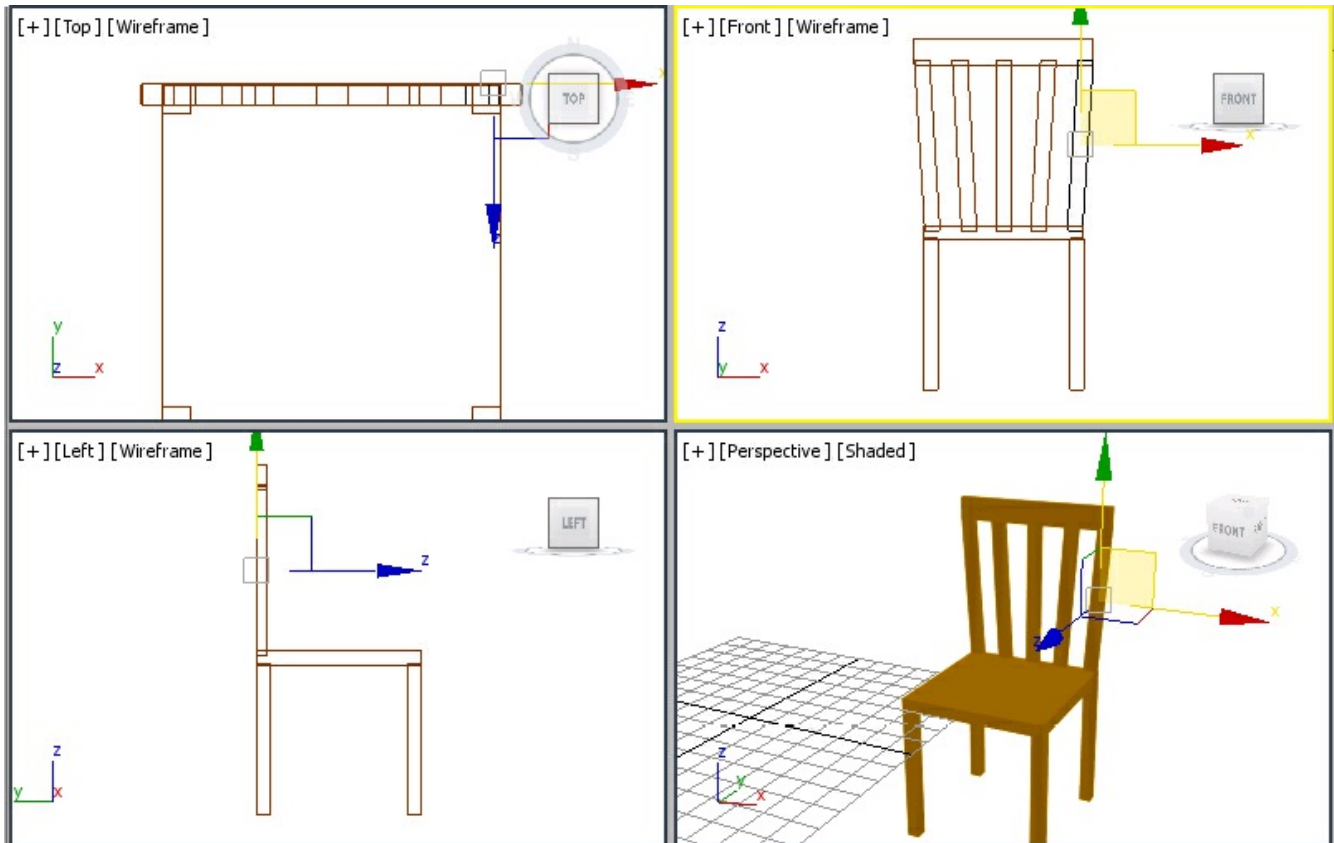

Figure 2-61 Alignment of *back2* and its copies
13. Rename it as *back2*. Next, create 4 copies of *back2* and align them with *base* using the **Select and Move** and **Select and Rotate** tools, refer to Figure 2-61. Also, align *back1* with all these parts, as shown in Figure 2-61.